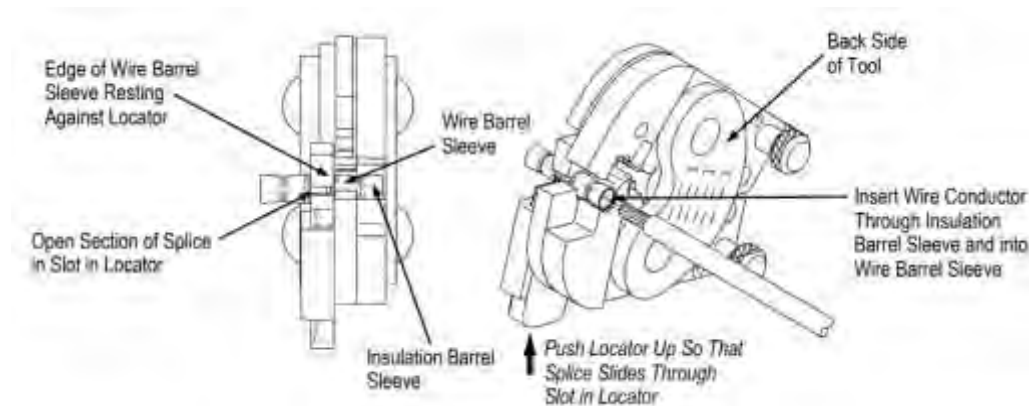

Figure 216
- b. Push the locator up and, from the FRONT side of the tool, insert the terminal or splice wire barrel sleeve into the crimping jaws making sure that the edge of the wire barrel sleeve rests against the locator, as shown in Figure 216.